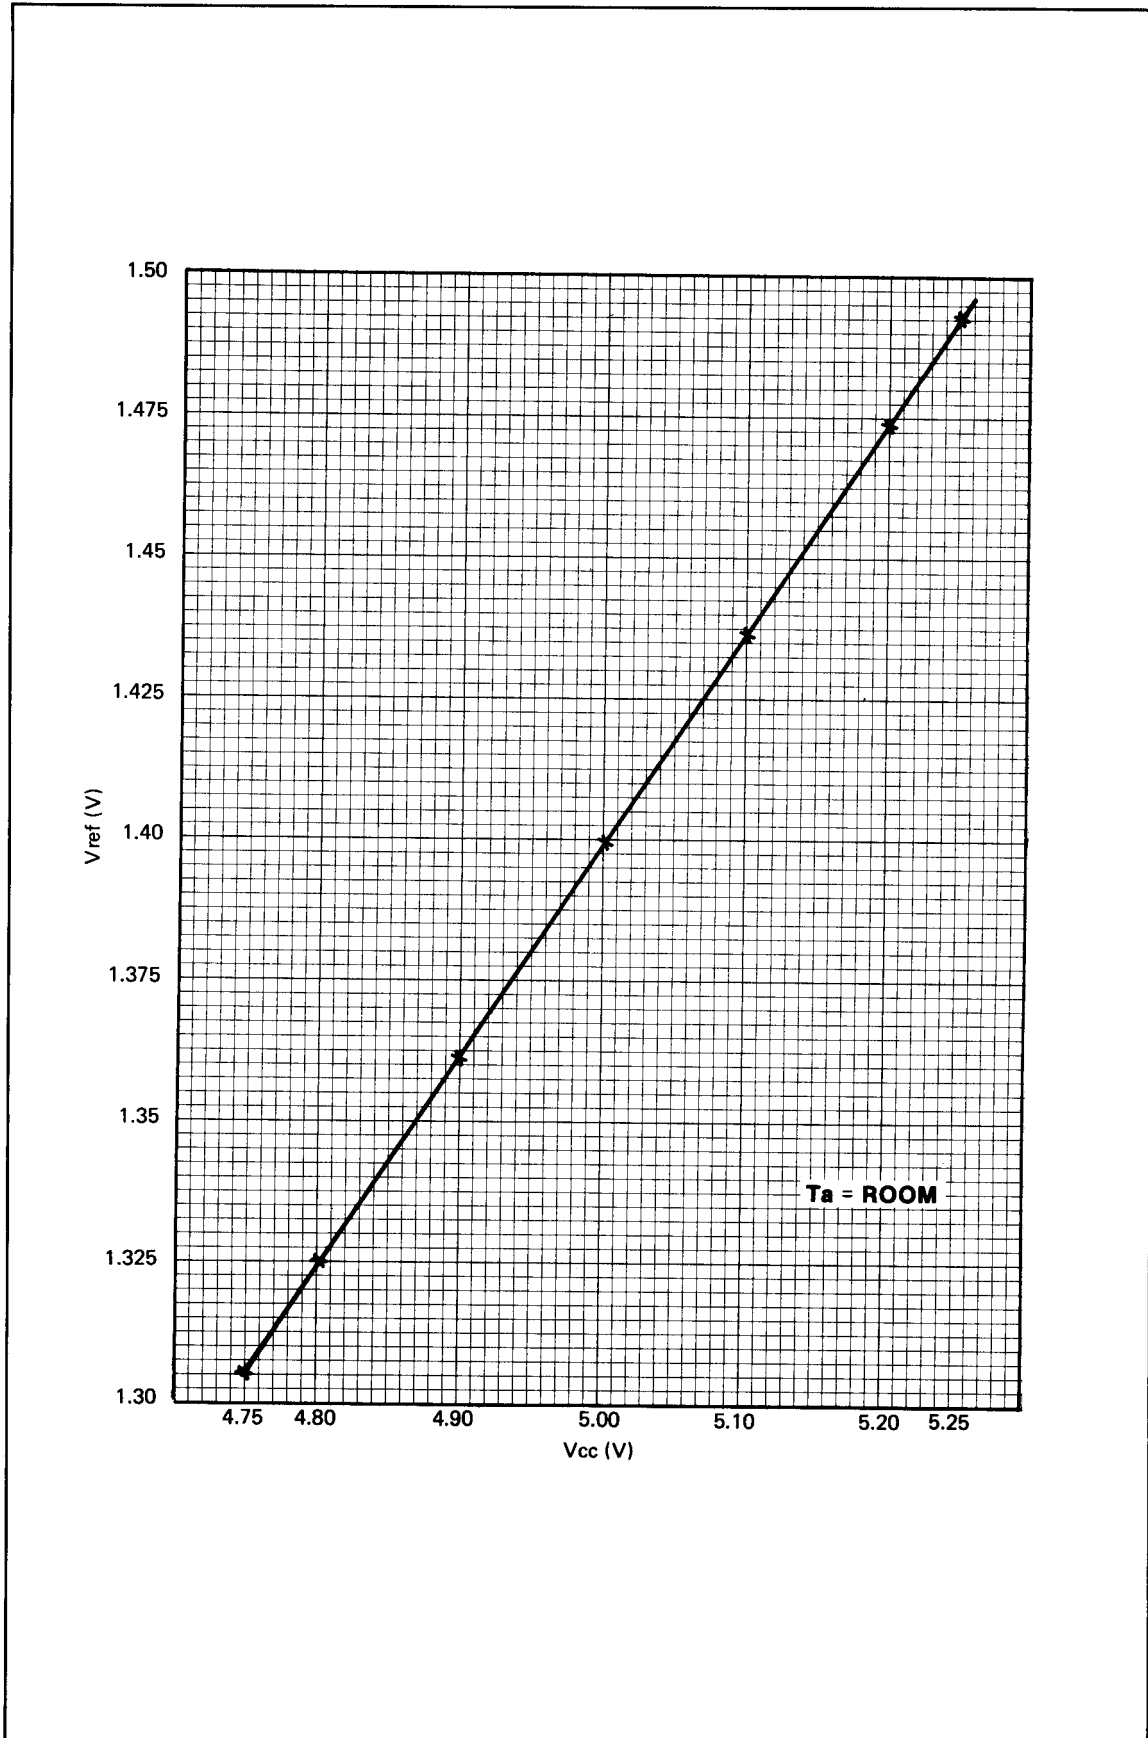

Figure 5-1. Data Probe Vcc—Vref Graph
- c. Connect the positive test lead to U1(5). Compare this voltage with the  $V_{ref}$  voltage corresponding to the  $V_{CC}$  (step b) on *Figure 5-1*.
*Figure 5-1* is a graph relating the U1 pin 5 voltage to U1 pin 7 voltage.